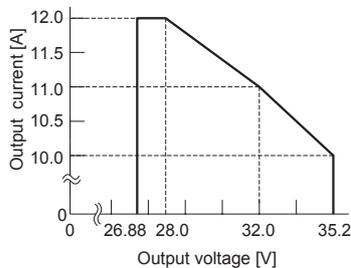

Fig. 3.8 Output Current derating curve (CQHS3504832)
■When the output voltage adjust less than rated output voltage, the output current range becomes increasing as shown in Fig. 3.8.